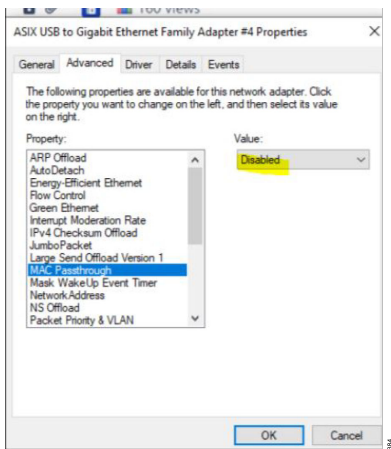

Figure 185. Modify Adapter Property for MAC Passthrough
- 4. Check the network adapter used and whether it has a property MAC passthrough enabled. This may cause it to pick up a different MAC address and interfere with ability of the GUI to communicate with the switch. Disable this property for the adapter, see Figure 185 and restart the GUI.